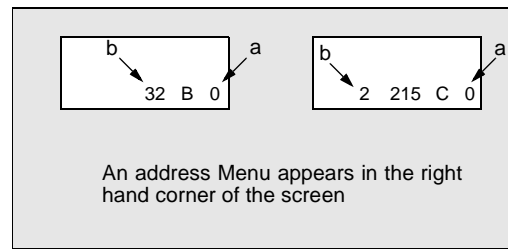

Figure 20. **Serviceman Mode Menu Adjustments.**
Note: Only the applicable settings for the Receiver serviced will be available (See **a** in Fig. 20).
1. Press **Channel Up/Down** on the **Remote Control** to select one of the available Service Adjustments (**a** in Fig. 20).
Note: Write Down the original value set (**b** in Fig. 20) for each address before modifying anything. It is easy to erroneously adjust the wrong item.
2. Press **Volume Up/Down** on the **Remote Control** to adjust the level of the selected Service Adjustment (**b** in Fig. 20).
1. Press Channel Up/Down on the Remote Control to select one of the available Service Adjustments (a in Fig. 20).
Note: Write Down the original value set (b in Fig. 20) for each address before modifying anything. It is easy to erroneously adjust the wrong item.
2. Press Volume Up/Down on the Remote Control to adjust the level of the selected Service Adjustment (b in Fig. 20).
1.Press Channel Up/Down on the Remote Control to select one of the available Service Adjustments (a in Fig. 20).
2.Press Volume Up/Down on the Remote Control to adjust the level of the selected Service Adjustment (b in Fig. 20).